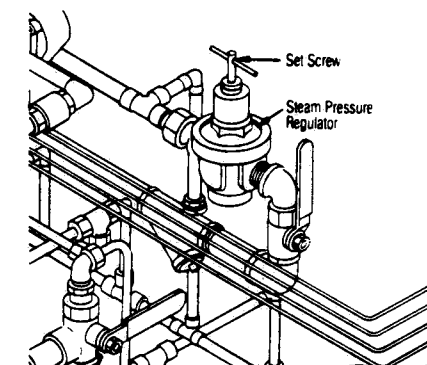

FIGURE 5-7 - Pressure Regulator Adjustment
6. Slowly turn steam-regulator adjusting screw (Figure 5-7) clockwise to increase pressure in chamber. The safety valve must pop at 36 psig (± 2 psig).